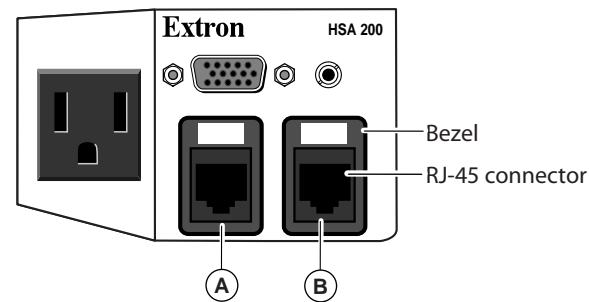
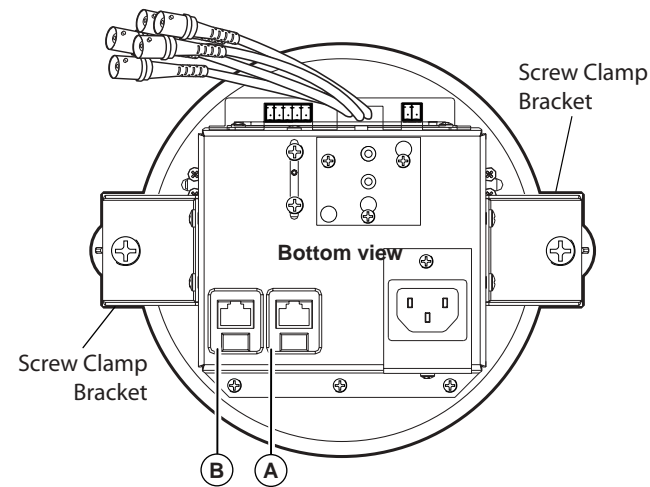

Figure 1 - HSA 200 front panel
Figure 2 - HSA 200 bottom features
Figure 1 shows the location of the bezel plug-ins on the front panel of the HSA 200. Figure 2 shows the associated connectors on the bottom of the HSAs. When replacing the CAT 6 cable, match the front panel connection (A) with the underside connector (A), match (B) with (B), and so forth.
- 2 On the underside of the table, loosen the two screw clamps holding the enclosure to the tabletop. Remove the two screw clamp brackets (see figure 2).